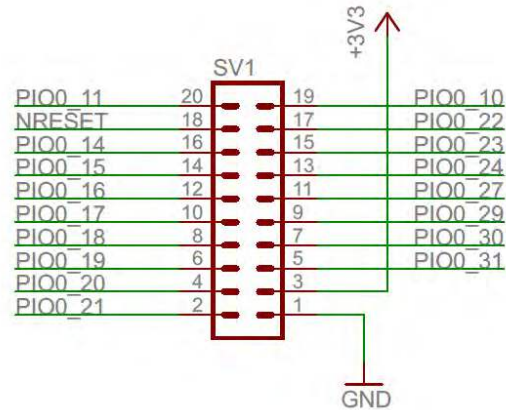

Fig 9. Expansion connector
The connections of the expansion connector are given in Fig 9. All the connections, except ground and power, are directly connected to the microcontroller. The connections available support the usage of the 16-bit timers CTB16B0 and CTB16B1, and the 32-bit timers CT32B0 and CT32B1 for PWM generation. Furthermore, two analog to digital inputs are available; for communication purposes an SPI/SSP or I2C connection is available.
- Fig 9. Expansion connector 10